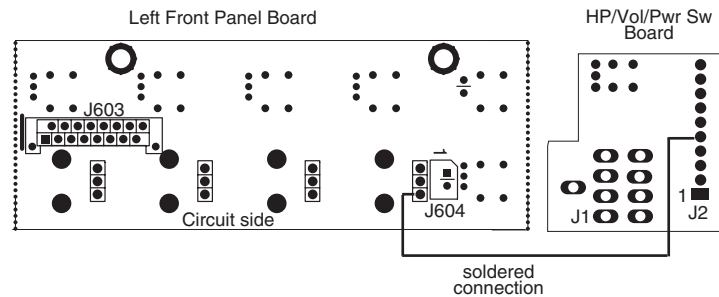

Figure 3-6 Left Front Panel and Headphone/Volume/Power Switch Board connection
5. Refer to Figure 3-6. This illustration shows the location of a soldered connection between the Left Front Panel and Headphone/ Volume/Power Switch Boards. To remove the board, desolder this connection from the Left Front Panel Board.
5. Refer to Figure 3-6. Solder the wire connection from the Headphone/Volume/Power Switch Board to the location indicated on the Left Front Panel Board.
7. Refer to Figure 3-6. This illustration shows the location of a soldered connection between the Left Front Panel and Headphone/Volume/Power Switch Boards. To remove the board, desolder this connection from the Headphone/Volume/Power Switch Board.
5. Refer to Figure 3-6. Solder the wire connection from the Left Front Panel Board to Pin 5 of J2 on the Headphone/Volume/Power Switch Board.